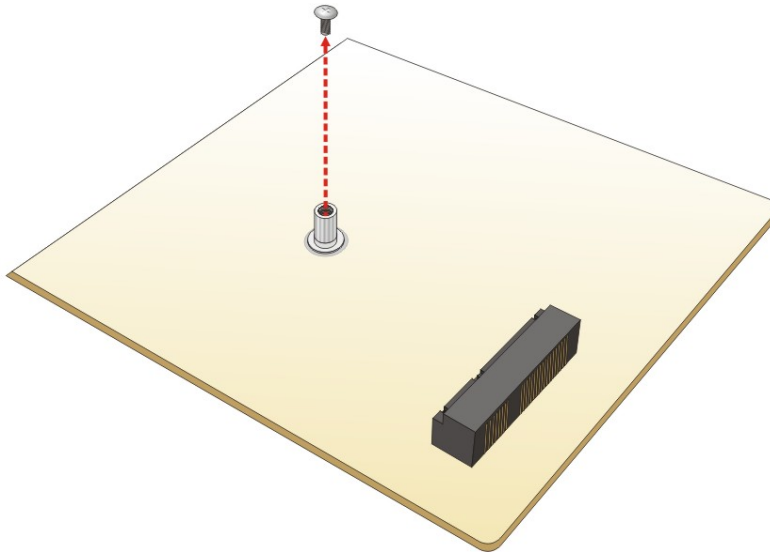

Figure 4-2: Removing the Retention Screw
- Step 2:** Remove the retention screw. Remove the retention screw as shown in **Figure 4-2**.